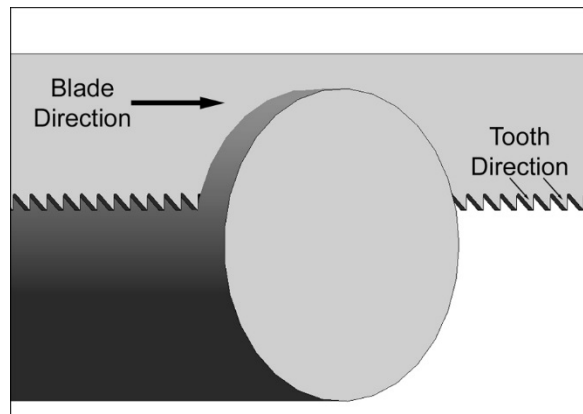

Figure 7-6
6. Install new blade between blade guide assemblies and around each wheel. Make sure blade teeth are pointing in proper direction. See Figure 7-6. If they are not, twist blade inside-out.